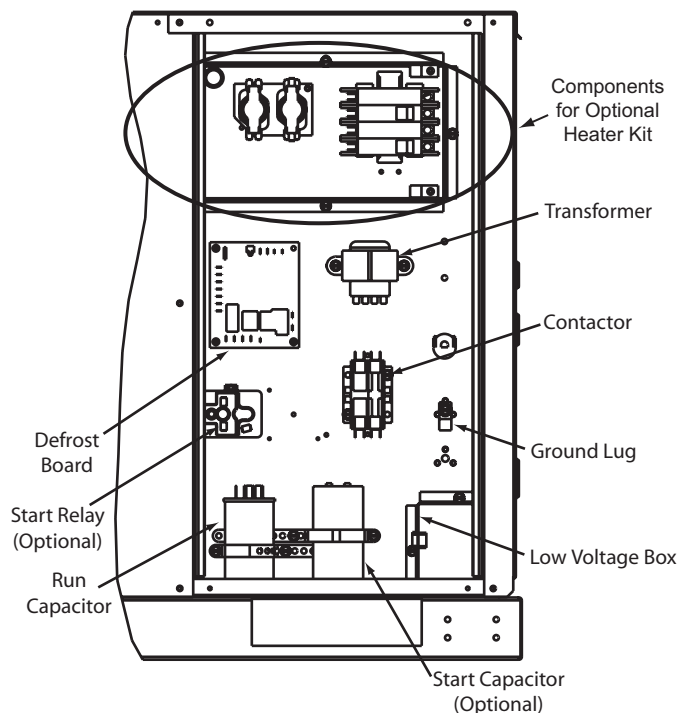

Figure 10: Unit Component Location
- For single phase units - Connect one supply wire to L1 on the contactor, and the other supply wire to L2 on the contactor. Connect ground wire to ground lug in control box. See Figure 10.